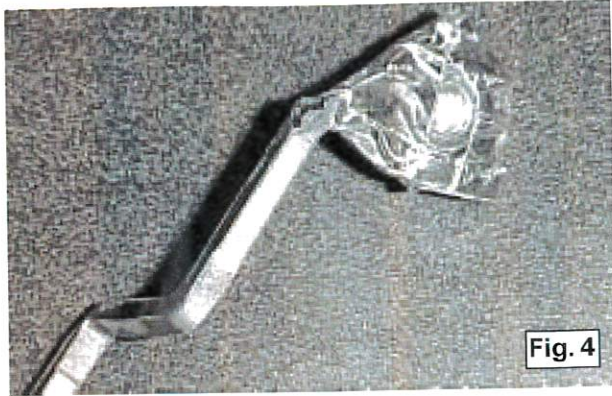

Fig. 4
4. Place the 1/4-20 nut onto a square piece of tape (enough to wrap around the offset wrench. See figure 3). Take the offset wrench and place it on the nut and tape. It is very important to have the triangle indentation on the nut facing the tape as shown in figure 3. Wrap the rest of the tape around the offset wrench securing it into place (see figure 4).